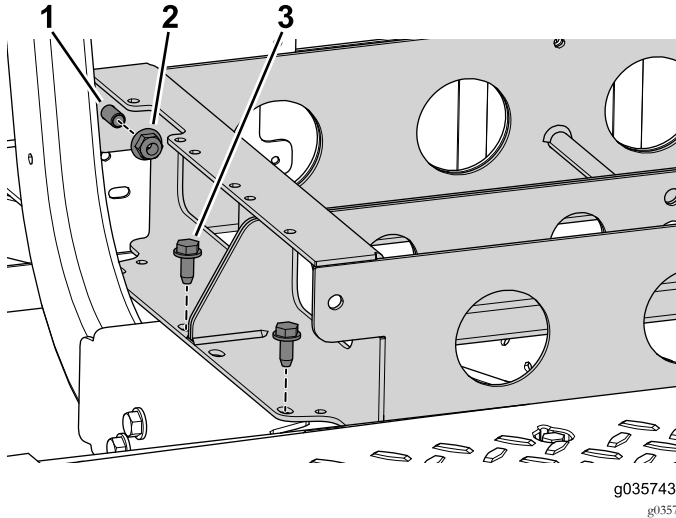

Figure 83
1. Use the 2 flange nuts and bolts to secure the rear and front battery trays together (Figure 83).
2. Use the 4 bolts (3/8 x 1 inch) to secure the front battery tray to the machine (Figure 83).